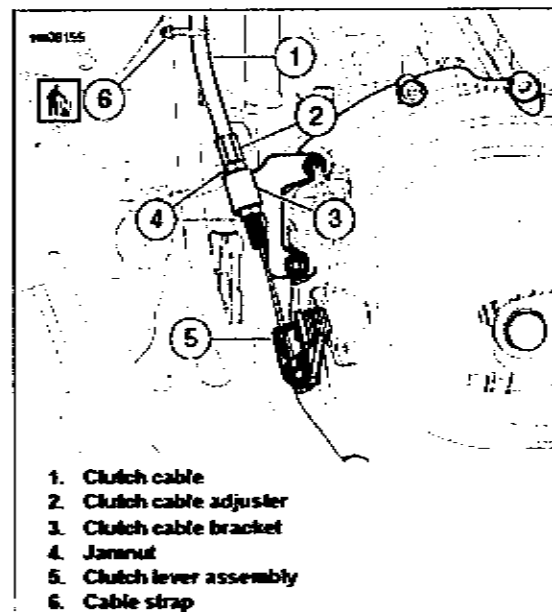

Figure 3-52. Clutch Cable: Lower End
1. See Figure 3-52. Remove clutch cable.
- a. Discard cable strap (6).
- b. Loosen lower jamnut (4).
- c. Remove end of clutch cable (1) from clutch lever assembly (5).
- e. Remove clutch cable, upper jamnut and clutch cable adjuster (2) from clutch cable bracket (3).
1. See Figure 3-52. Install clutch cable.
- a. Install clutch cable (1), adjuster (2) and upper jamnut (4) through clutch cable bracket (3).
- d. Install new cable strap (6) See Figure 3-52.